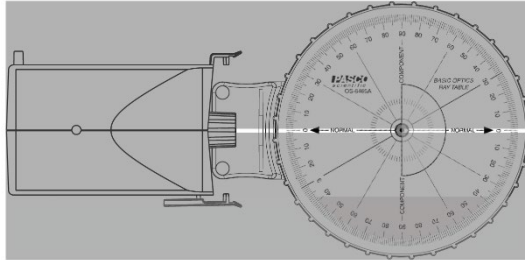

Figure 2: Aligning Ray Box with Ray Table
4. Place the light source on the lab bench so that the front of it is against the square tab of the ray table, and the ray of light is incident on the center of the flat side of the D-shaped lens (see Figure 2). The ray should pass through the center of the lens without bending.